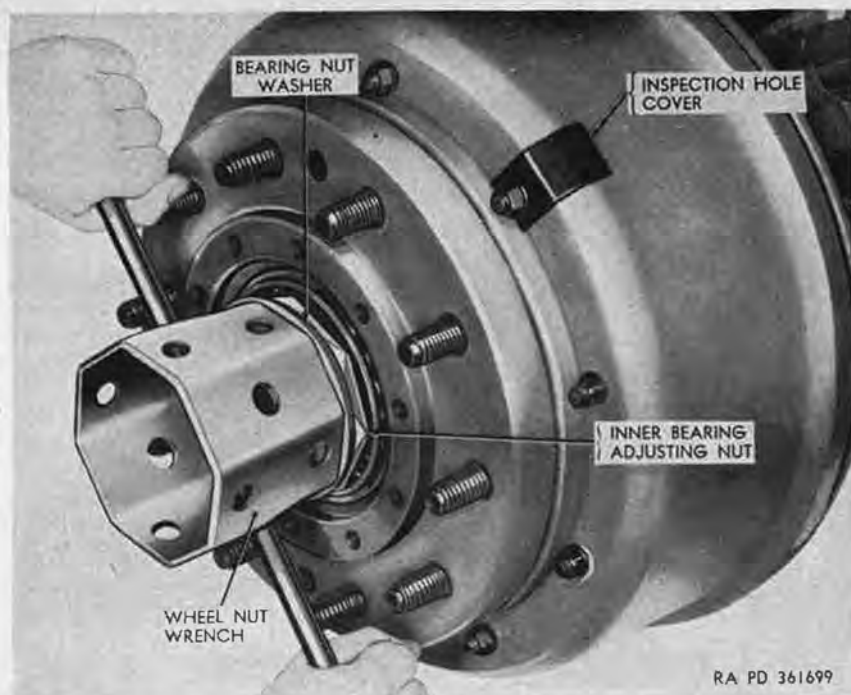

Figure 258. Removing outer bearing adjusting nut.
2. Using wheel nut wrench (fig. 100), remove outer bearing adjusting nut (fig. 258) and bearing nut washer.
3. While turning wheel, tighten inner bearing adjusting nut (fig. 258), using large end of wrench, until wheel binds; then back off nut approximately one-eighth turn. Recheck wheel bearing adjustment ((*a*) above).
4. Using wheel nut wrench, install bearing nut washer (fig. 258) and outer bearing adjusting nut. Tighten outer nut.
- (c) Install hub and drum assembly (c(2) below).
- (a) ~~Remove wheel nut (fig. 100), bearing nut washer (fig. 258), and inner bearing adjusting nut (fig. 258) from spindle.~~ *Superseded C 2 Page 4*
- (c) Using wheel nut wrench (fig. 100), remove outer bearing adjusting nut (fig. 258), bearing nut washer, and inner bearing adjusting nut from spindle.
- (e) Using wheel nut wrench (fig. 258), install inner bearing adjusting nut on spindle.